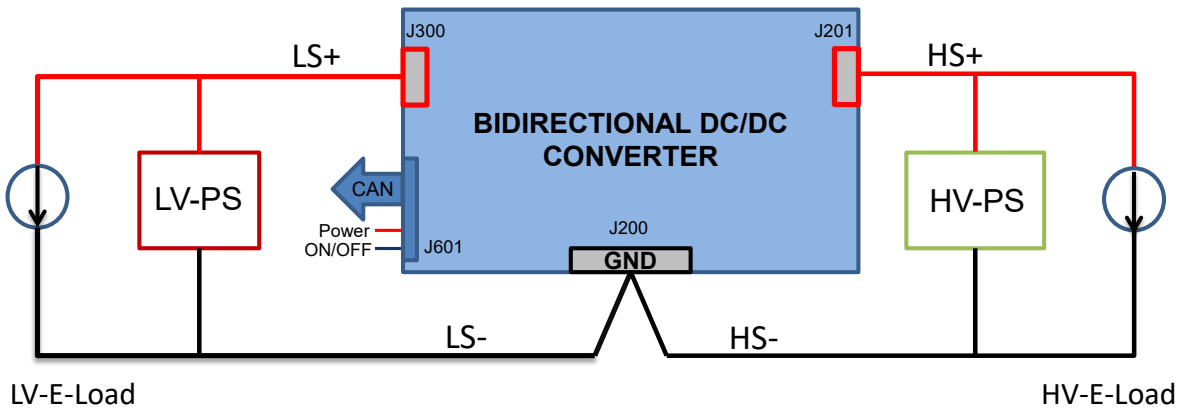

Figure 2: Bench Setup
Figure 2 illustrates the bench setup used to operate 48S12.1K5BCA and take measurements provided in datasheet. The combination of the Electronic Load (E-Load) and Bench Power Supply (PS) emulates a battery capable of both sourcing and sinking current.